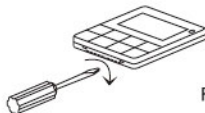

Fig.1
2. First, use a flathead screwdriver to gently pry the bottom groove of the wire controller as shown in Fig. 1.